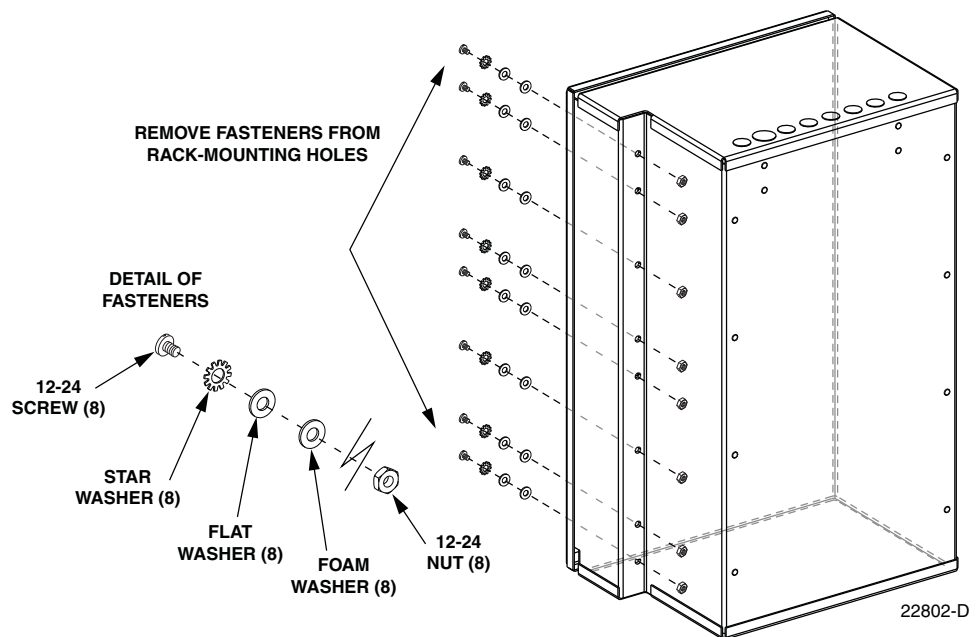

Figure 6. Remove Fasteners from Right Rack-Mounting Holes
10. Remove the 12-24 screws, star washers, flat washers, foam washers, and 12-24 nuts (8 of each) from the **right** side rack-mount holes shown in Figure 6.